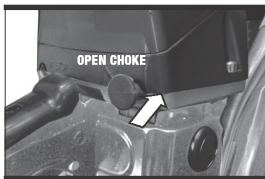

Fig.M3
4. Pull the starter rope (13) sharply 5 times with your right hand. Then, proceed to the next step. (Fig. L)
5. Push the choke lever (10) in to the OPEN Choke position. (Fig. M3)
6. Pull the starter rope(13) sharply with your right hand until the engine starts.
7. Allow the engine to run for approximately 5 seconds. Then, squeeze and release the throttle trigger (11) to allow engine to return to idle speed. The choke lever will in the OPEN CHOKE position. (Fig. M3)